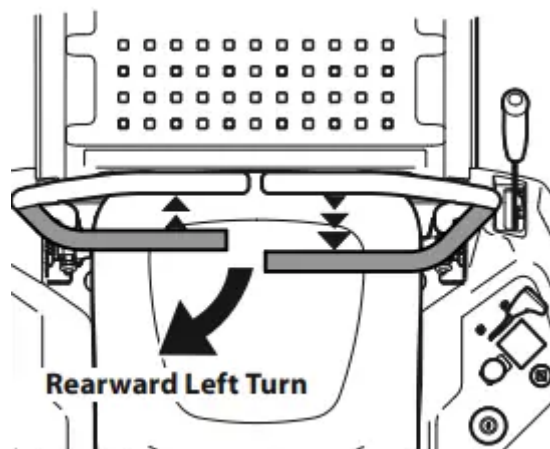

**Figure 22**
1. Slowly and evenly move both lapbar drive control levers rearward. The tractor will start to move in the reverse direction. See Figure 22 .